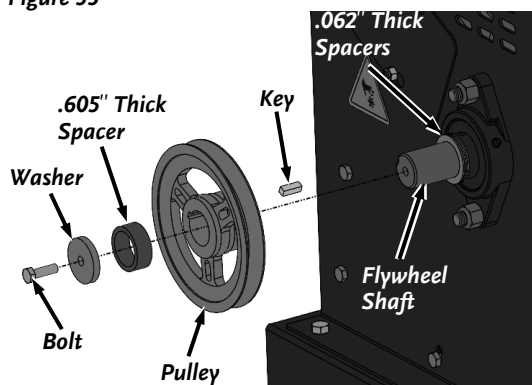

Figure 34a: Pro-475
- a) Remove the Pulley Bolt, Washer, and .605" Spacer (**Figure 34a**).